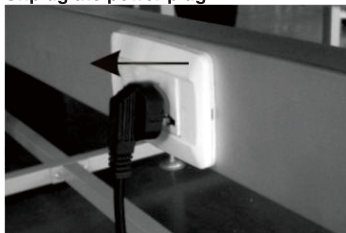

Figure 7
9.5. When finished the absorbing, set the I/O power switch to the "O" position to turn off the unit, if there is discontinuous use, please unplug the power plug, as shown in Figure 7.